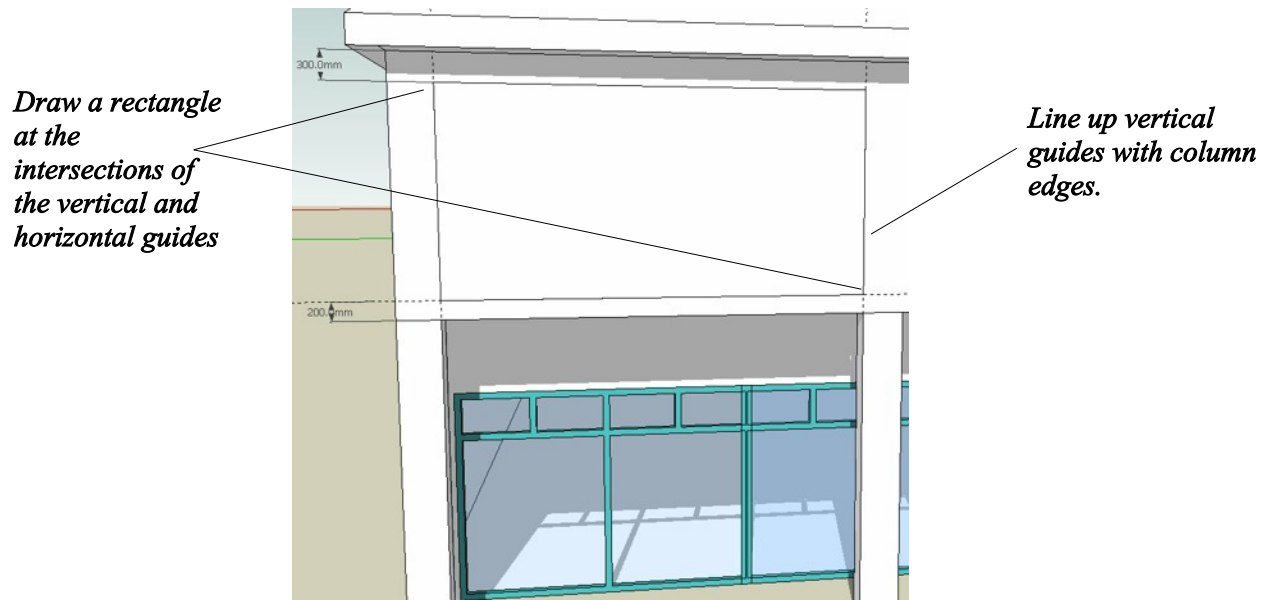

Figure 62. Guides and rectangle used to form balcony opening
- Using the **Tape Measure** tool create two horizontal guides, 300mm from the soffit and 200mm from the top of the columns as shown in Figure 62.
- Using the **Tape Measure** tool create two vertical guides lining them up with the edges of the columns as shown in Figure 62.
- At the intersections of the horizontal and vertical guides use the **Rectangle** tool to create a rectangular face as shown in Figure 62.